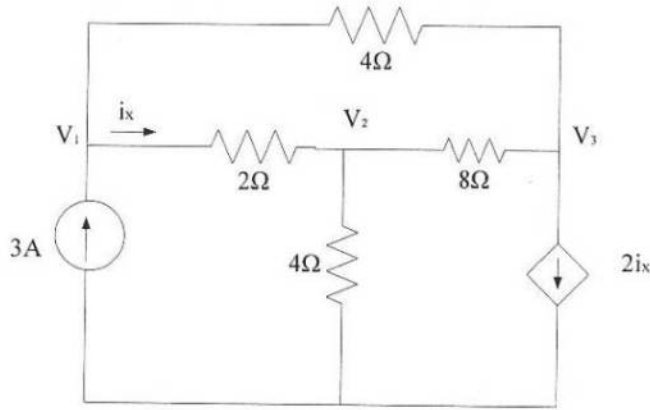

Figure 7(a)
- b. Find R_{ab} for the circuit in Figure 7(b)